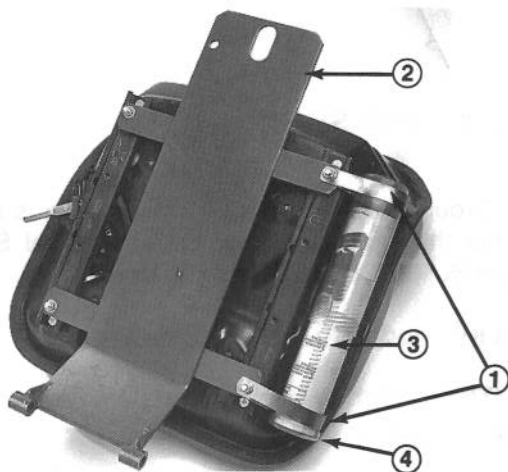

Figure 5
7. Loosely secure (2) R-clamps to right side of seat bottom with (2) capscrews supplied in kit (Fig. 5). Install manual tube into R-clamps and tighten capscrews (Fig. 5).